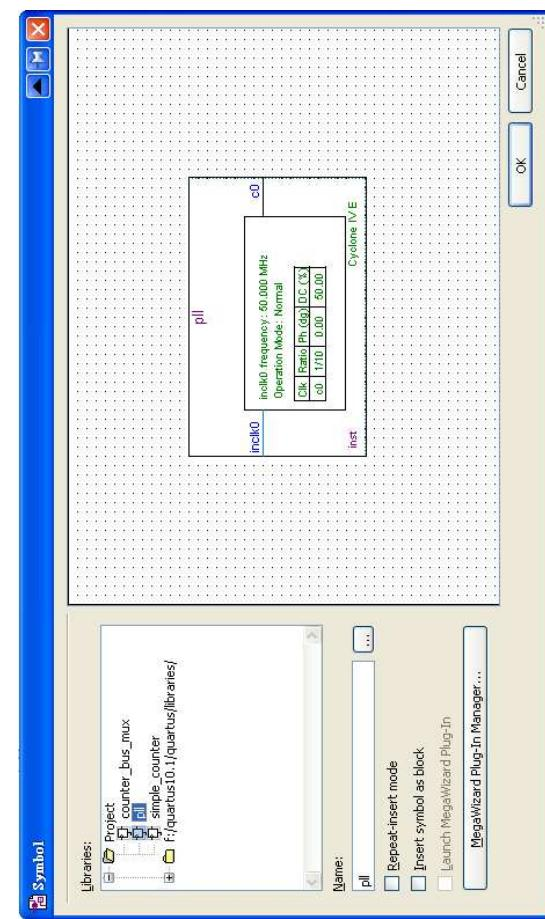

Figure 6-25 PLL Symbol
- The Symbol window opens, showing the newly created PLL megafunction, as shown in Figure 6-25.